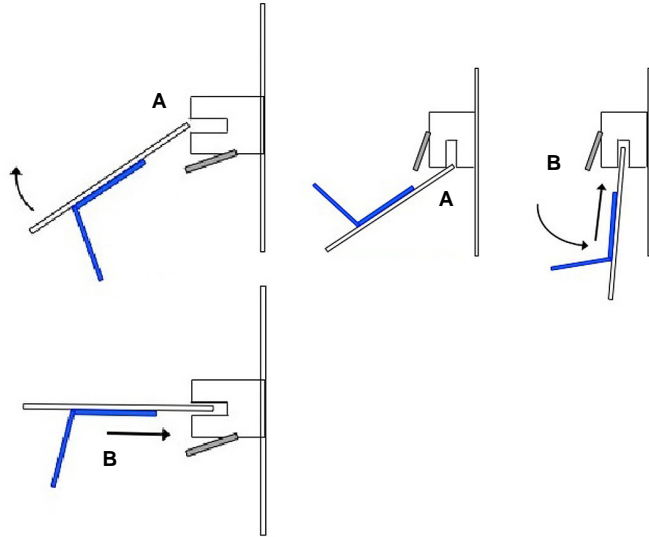

Figure 2 FCC cable connect
3. Use the blue reinforcing tab to very carefully connect the FFC cable, Figure 2:
- a. Position the FFC cable at an angle (A), then centrally (B) in the slot of the connector.
- b. While aligning the FFC cable with the slot, firmly push the FFC cable into the connector (B). The release lever will close and a click will be heard when the FFC cable is fully inserted.
NOTE: Two types of surface mounted connectors are shown in Figure 2.